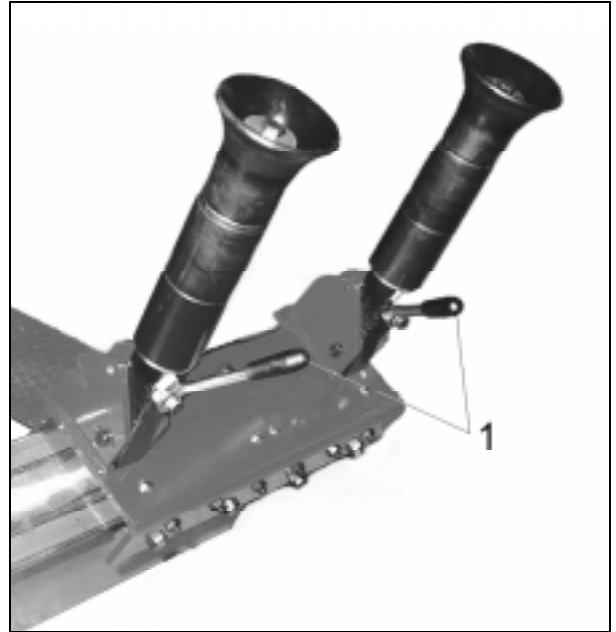

Fig.15
- E.** Use the toolholder arm lock levers (#1 Fig.15) to lock and release the toolholder arms.